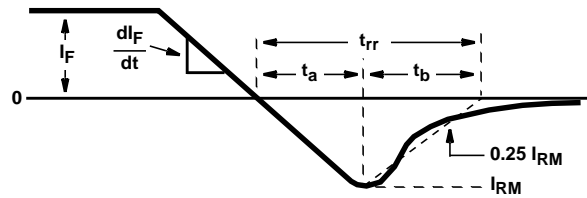

FIGURE 9. t_{rr} WAVEFORMS AND DEFINITIONS
- t_{rr} = Reverse recovery time (See Figure 9), summation of $t_a + t_b$.
- t_a = Time to reach peak reverse current (See Figure 9).
- t_b = Time from peak I_{RM} to projected zero crossing of I_{RM} based on a straight line from peak I_{RM} through 25% of I_{RM} (See Figure 9).